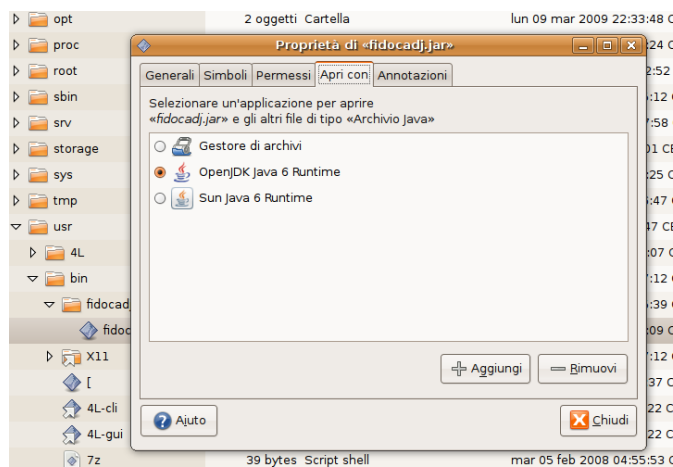

Figure 23: Set the execution with the Java virtual machine, under Ubuntu 8.04.
- We can select the tab "Open as" and select "OpenJDK Java 6 Runtime" or "Sun Java 6 Runtime", as it can be seen in figure 23.